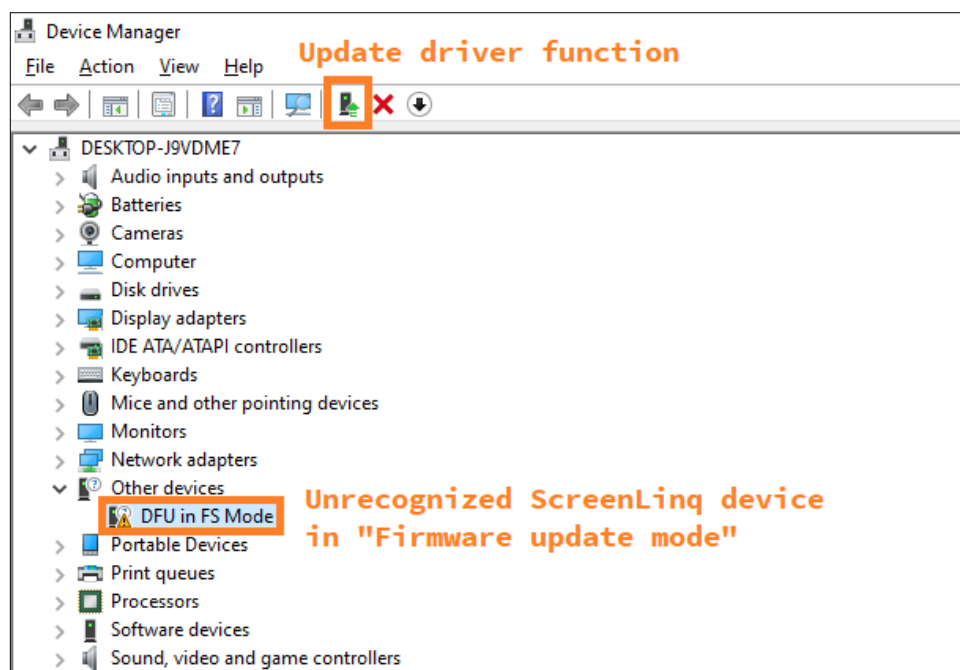

Figure 21: An unrecognized ScreenLinq device in Windows 11 Device Manager.
In the case of Microsoft Windows 11, a ScreenLinq device will appear in *Device Manager* as a device with a *Warning* symbol (see Fig. 21), indicating that such a device might not operate as desired.
- 2 Find a ScreenLinq device in *Device Manager* (see Fig. 21),